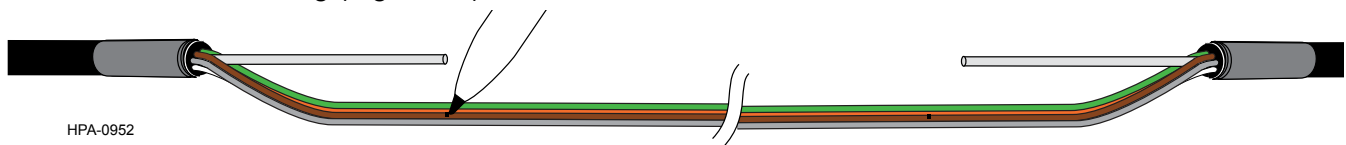

Figure 15
Step 2: Use a permanent marking pen to mark the tube(s) with both start and end points to indicate the length of buffer tube to be opened. The length of opening is dependent on the installation, tray requirements, and the available fibre needed for splicing and routing (Figure 15).